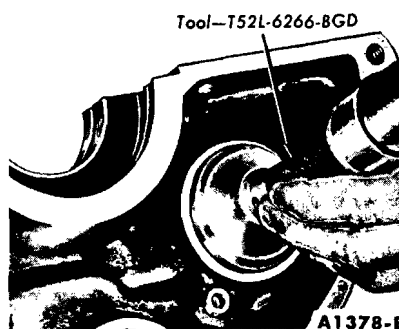

FIG. 38—Camshaft Rear Bearing Bore Plug Installation
5. Coat the flange of a new plug with oil resistant sealer and install it with the flange facing out and slightly below the chamfer in the bore (Fig. 38).